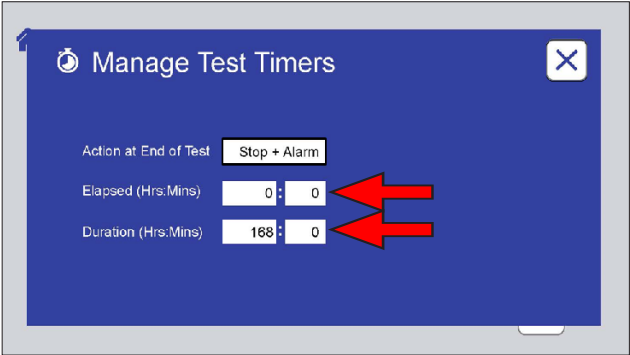

Figure 11.5d: Touch the Elapsed or Duration text boxes to reset the elapsed or duration time of the current test. A numeric keypad will be displayed.
- o Change the elapsed time in hours and minutes for the current test (Figure 11.5d).